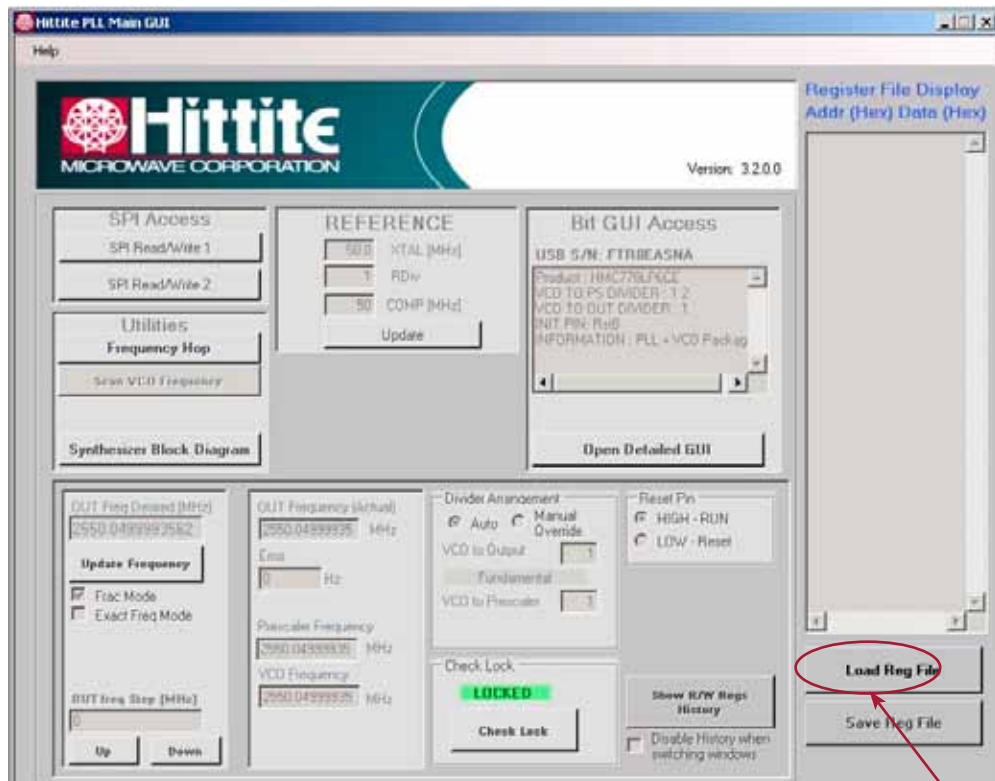

Figure 8. Main Control Window
Step 5. Click “Done” button, the main control window pops out as Figure 8 shown.